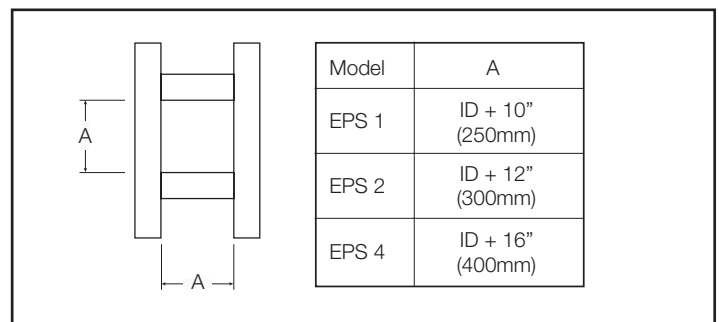

Fig 8-2: Framing Dimensions
The insulated penetration thimble, which does not include a pipe section, is primarily for the penetration of building roofs and walls of combustible construction. It can be installed with a wooden frame at a minimum of 1" (25mm) clearance, see Fig 8-2 for framing data.
2. The thimble mounts directly to a level combustible structure using four 1/4 x 2 1/2" lag screws and extends down through the roof void and into the space below. Where the roof is not level, build a suitable level frame construction above the roof to offer a flat and structurally stable platform for the insulated thimble assembly using the framing dimensions of Fig 8-2.
1. Create a framed opening in the wall insuring that the frame dimensions are as per Fig 8-2.